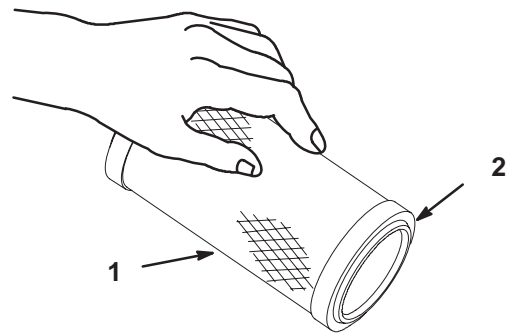

Figure 38
- A. Lightly tap the element on a flat surface to remove dust and dirt (Fig. 38).